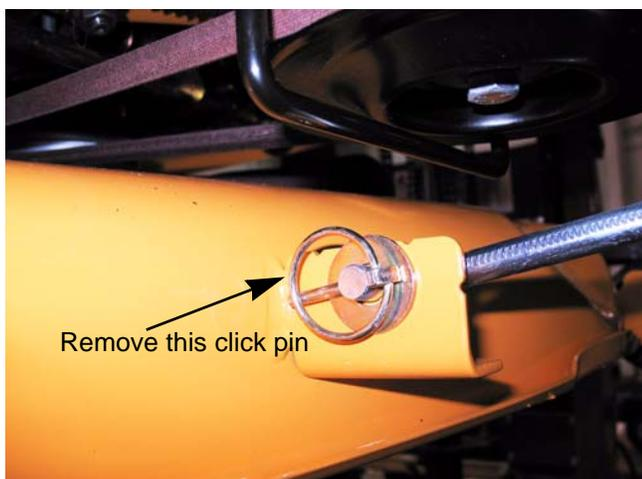

Figure 8.7
5. Remove the click pin and washer that secures the front lift rod to the deck and slide the rod away from the deck. See Figure 8.7.